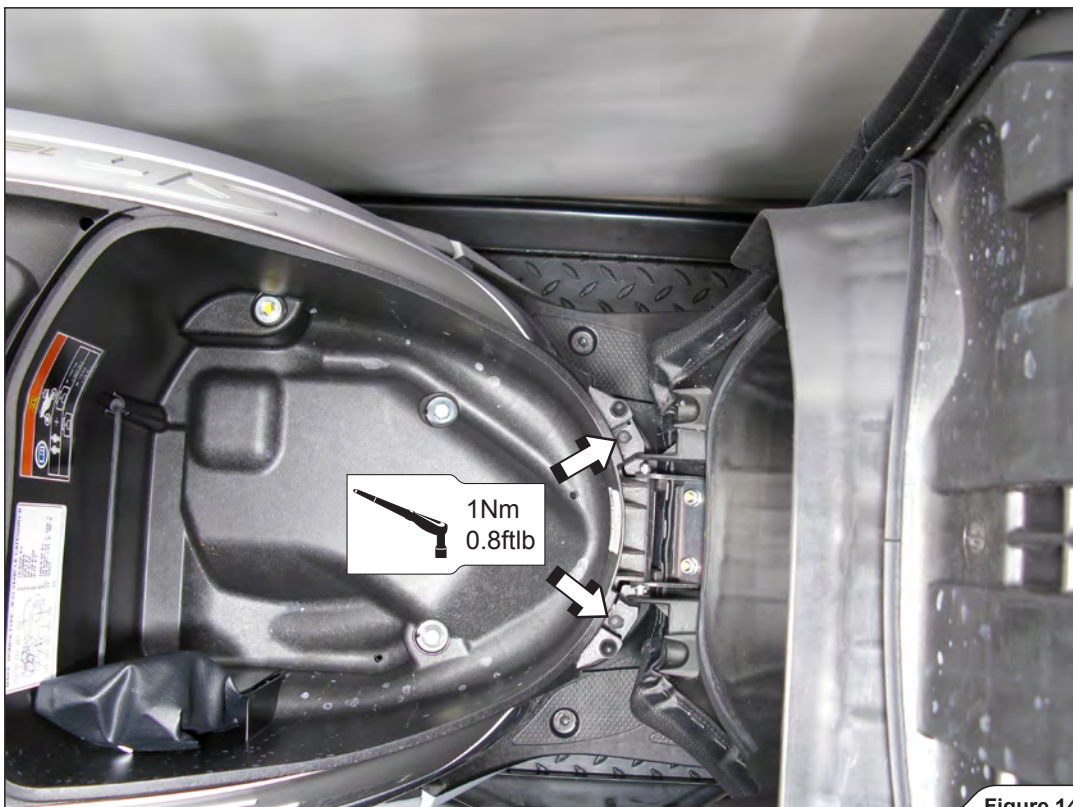

Figure 14
8. Reinstall the under seat cowling (**Figure 14**).